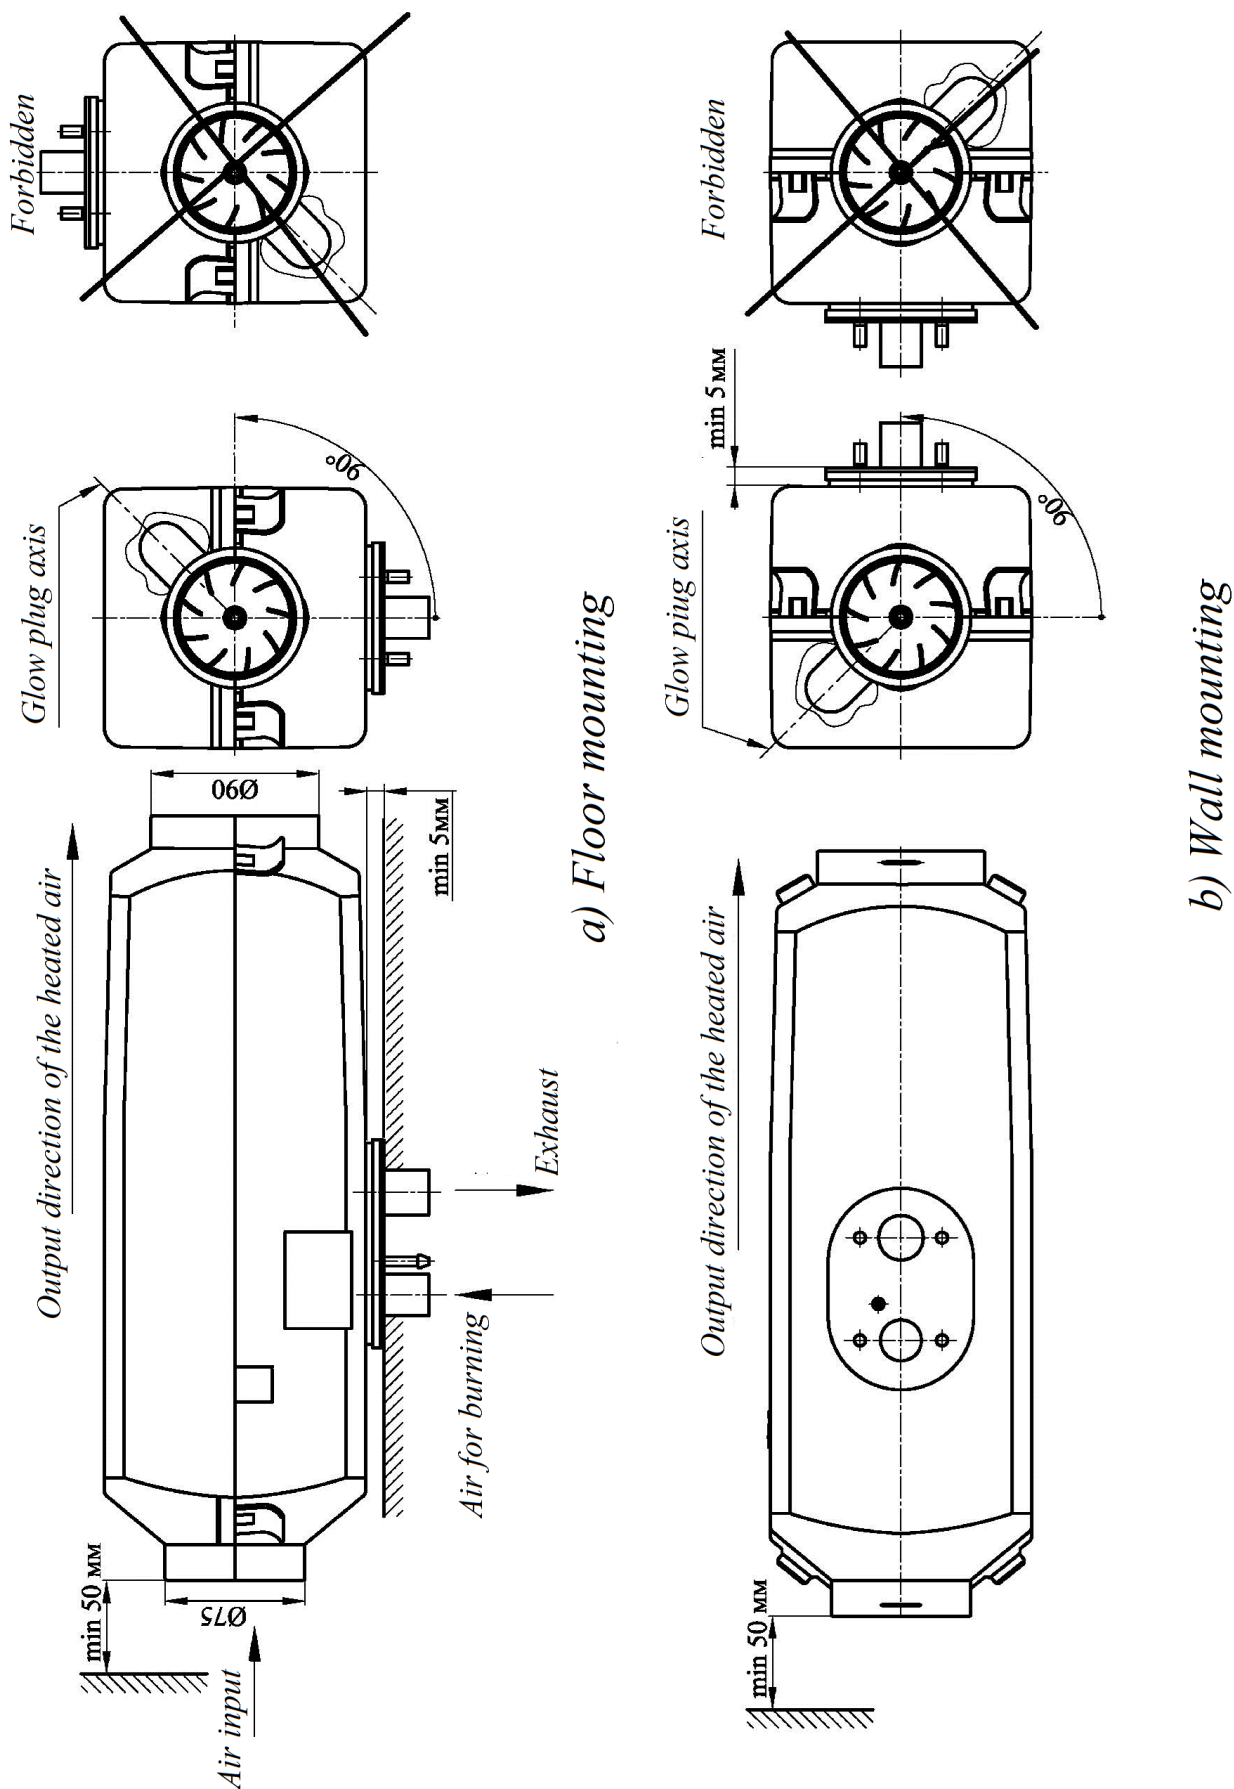

Fig.8 Mounting positions of the heater
Installation of the heater is made taking into account the permissible operating positions in accordance with Fig.8.
**The heater must be installed horizontally, with the glow plug in the upper position according to Fig. 8.**